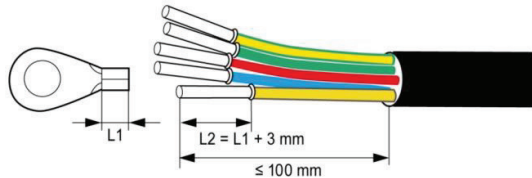

Fig 5.8 Crimp cable terminal
(1) Connect the four wires of the three-phase public power grid L1, L2, L3 and N to the AC connector interface according to Table 5-1, and connect the grounding wire to the grounding point on the outside of the chassis, and ensure that the conductors are crimped firmly without exposure , As shown in Fig 5.8;